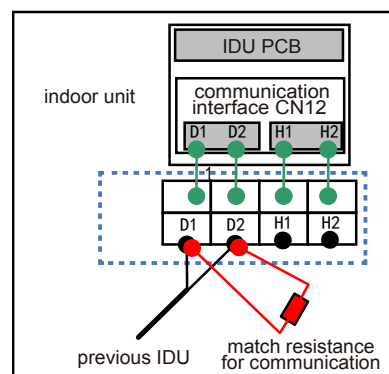

Fig 5.3.2
- (4) Fix the communication cable with clamp of electric box.
- (5) In order to ensure the reliability of communication between IDU and ODU and the communication among each IDU, add a matched resistance(supplied in a package before ex-factory) on the wiring board of the last indoor unit in a series connection. The matched resistance should be connected in parallel between terminal screw D1 and D2, as shown in Fig 5.3.2.